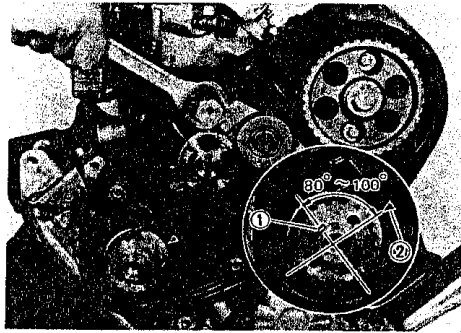

Fig. 3-16
Before removing the tensioner, turn over the crankshaft to bring its keyway (1) to a point between 80° and 100° on the left side of mark (2) provided on the timing belt inside cover. See Fig. 3-16. This positioning is necessary in order to prevent the piston crown from coming into contact with the valve. The valve could be damaged if this contact should occur. Never rotate camshaft or crankshaft before the cylinder head or rocker arms are removed.